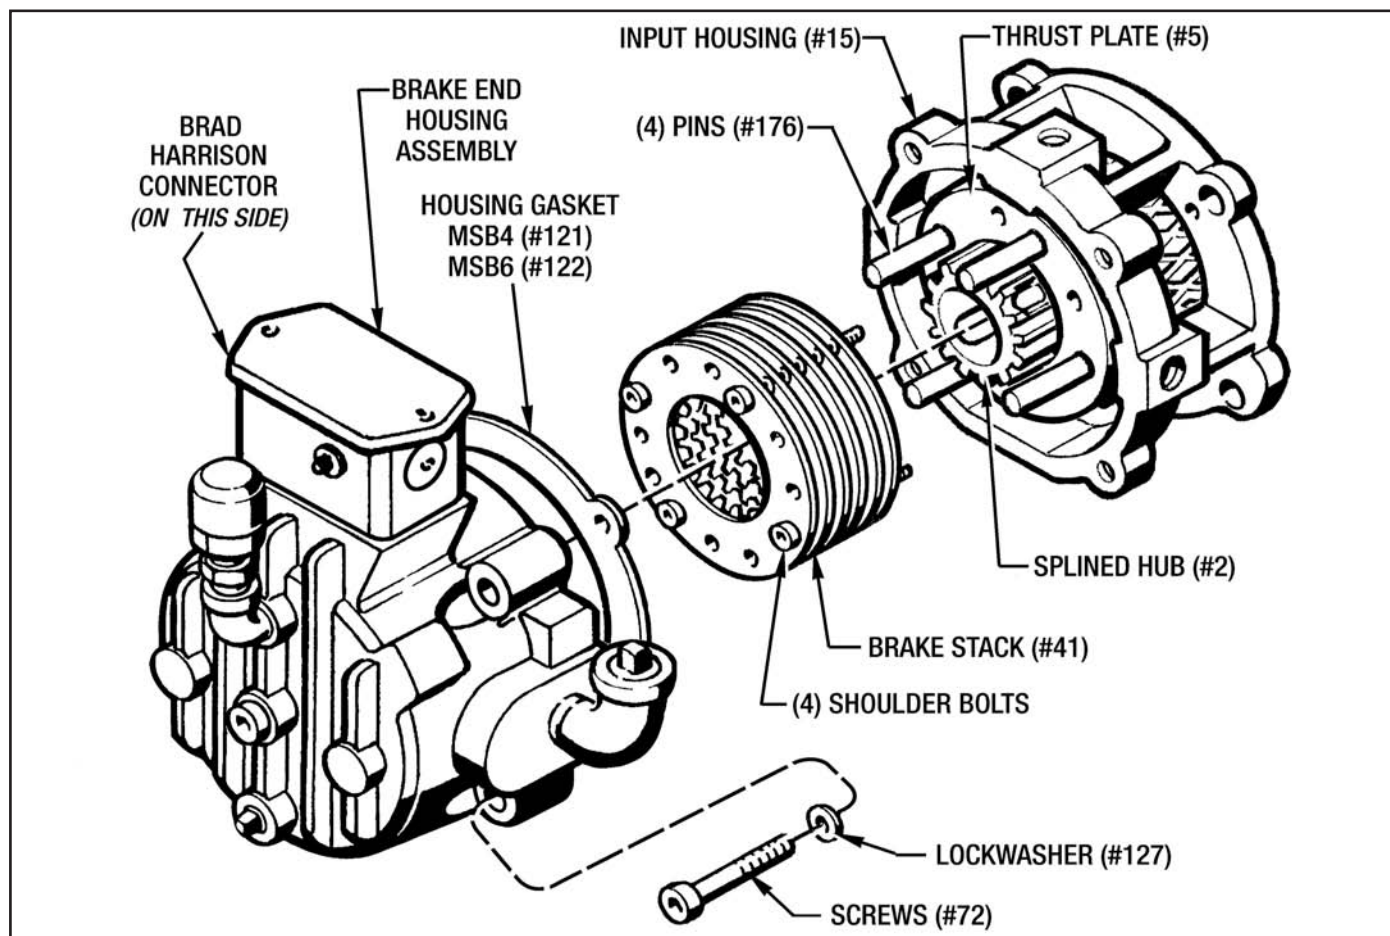

Figure 7.4 - Replacing The Brake Stack (MSB4 & MSB6)
(See Figures 7.4, 8.3 and 8.4)
3. Remove the Screws (#72) and Lockwashers (#127) from the End Housing (#9). There are (4) Screws and Lockwashers on the MSB4 Brake. The MSB6 Brake has (8) Screws and Lockwashers.
5. The Brake Stack (#41) can now be removed by unscrewing the (4) shoulder bolts that attaches the drive plates to Housing (#15). Pull the Stack off the Hub (#2) Spline and the (4) Pins (#176). (See Figure 7.4)